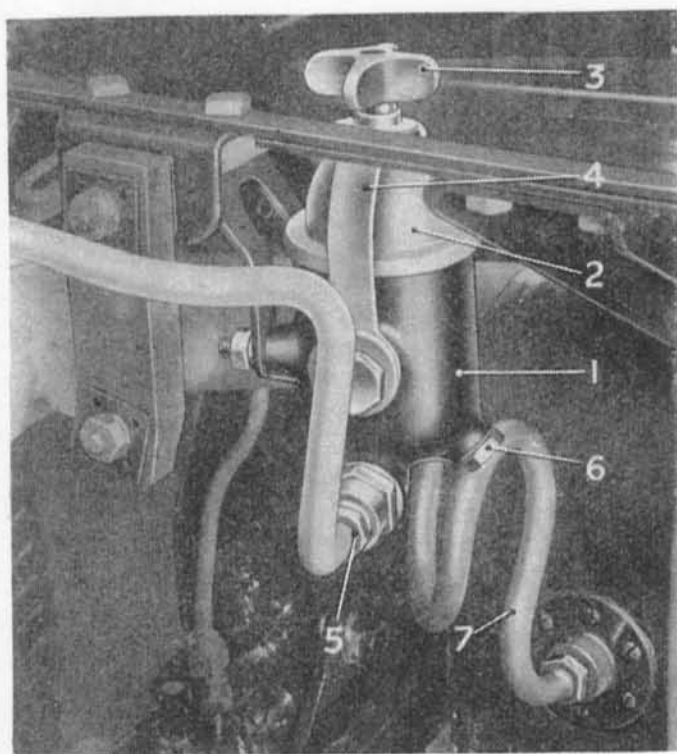

Fig. 12. REAR FILTER.
A pipe is arranged along the right-hand side frame member conveying fuel from the tank to the pumps. The pipe is seen at (4). A filter is provided on this pipe line, being located on the frame cross member immediately in front of the tank, as shown in Fig. 12.
The rear filter, shown in Fig. 12, is provided with two circular gauzes located above a large settling sump. Fuel passes upwards through these gauzes, and dirt settles on their lower faces and in the sump.
When refitting the cover, care must be taken that the cork washer is sound, and properly in position, and the nut (3, Fig. 12) tightly screwed up. Any leaks on this—the suction side of the pumps—although they may not be apparent by leakage of fuel, will impair the proper functioning of the pumps by admitting air.